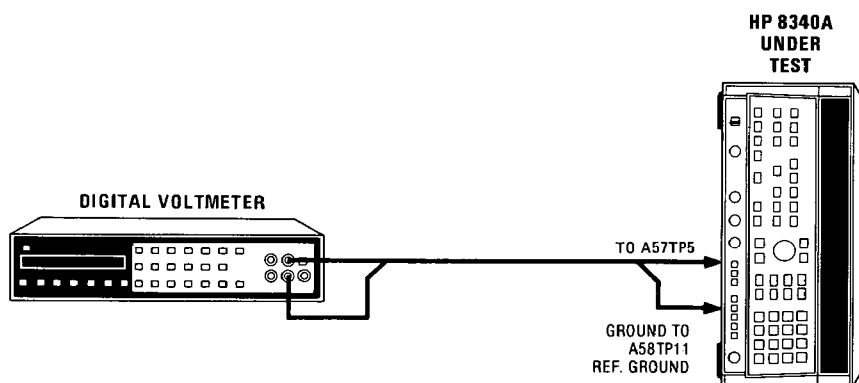

Figure 5-29. Marker Band Crossing Test Setup
1. Position the 8340A in the Test Position and connect equipment as shown in Figure 5-29. Allow one-half hour for warmup.
3. Adjust A57R33 MAN GAIN control (Figure 5-29) for 10.0000 ± 0.0005 Vdc at A57TP5 as indicated on DVM.